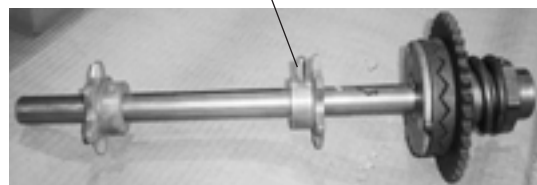

Figure 15. Installing the Headshaft
2. Drive the press-fit sprocket pin into the hole provided in the headshaft (Figure 15), or install the sprocket key if the unit is so equipped.